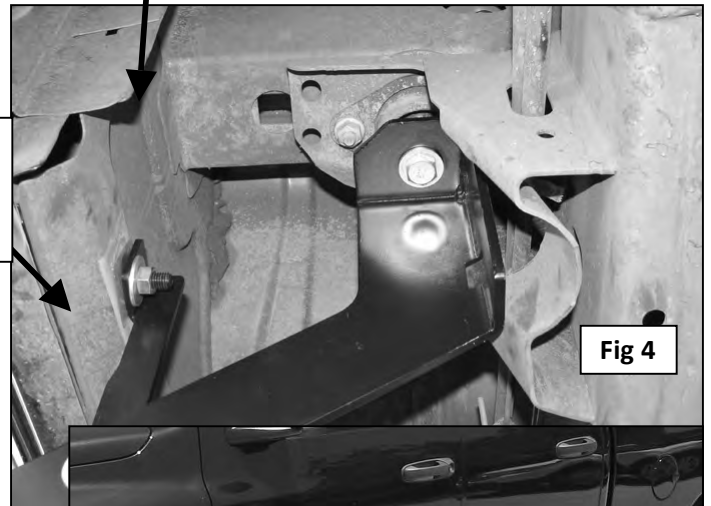

Fig 4
8. Next, move to the rear Mounting Bracket location. Remove the tape covering the hole in the inner rocker panel and install (1) Bolt Plate as described in **Step 5**. Locate the driver side rear Support Bracket (short) and attach it to the Bolt Plate with (1) 10mm Flat Washer, (1) 10mm Lock Washer and (1) 10mm Hex Nut, (**Figure 4**). **NOTE:** Place Support Bracket against the front facing side of the Mounting Bracket with the bent tab facing towards the **rear** of the vehicle. Repeat **Step 7** to attach the lower end of the Support Bracket to the Mounting Bracket, (**Figure 4**). Snug but do not tighten hardware at this time